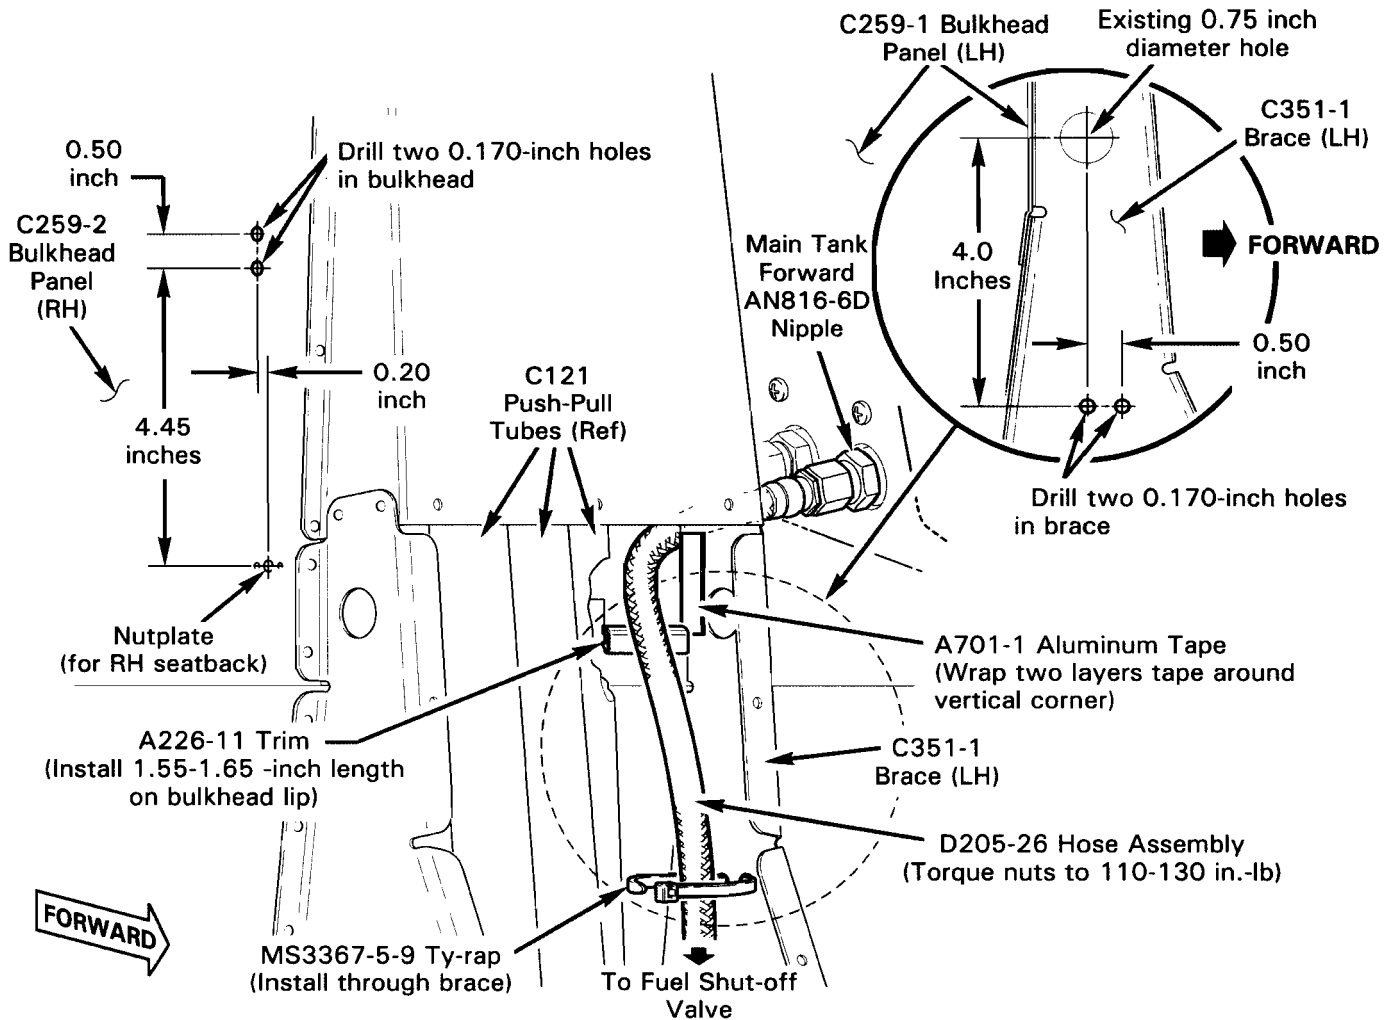

FIGURE 1
5. (a) Refer to Figure 1. Lay out hole locations on C259-2 bulkhead panel and C351-1 brace. Drill four 0.170-inch diameter holes and deburr. Clean up debris.
9. Refer to Figure 1. Cut a 1.55/1.65-inch length of A226-11 trim and install on bulkhead lip. Clean junction of C351-1 brace & C259-1 panel with solvent, and wrap two layers A701-1 aluminum tape around vertical corner. Press tape smooth.
10. (a) Refer to Figure 1. Connect D205-26 hose assembly to main tank outlet (forward AN816-6D nipple) and fuel shut-off valve. Special torque hose nuts to 110-130 in.-lb and torque stripe per MM Figure 2-1. Install MS3367-5-9 ty-rap around hose thru drilled holes in C351-1 brace. Cinch ty-rap until snug without over-tightening, and trim tip flush with head.